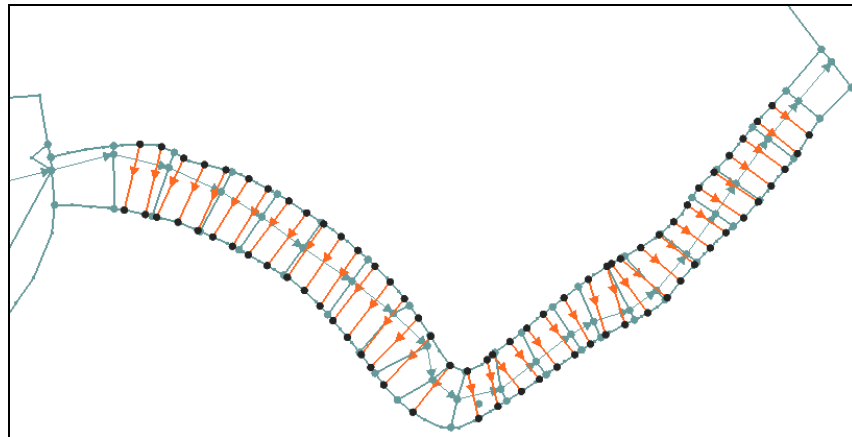

Figure 18 Water level lines
9. Use the **Select Feature Arc**  tool to *Delete* any water level lines above the first cross section or below the last cross section (Figure 18, showing once the lines have been removed).
10. Crossing water level lines create inverted elements. Delete crossing water level lines (especially at the bend) or drag their endpoints so they don't overlap (Figure 18).